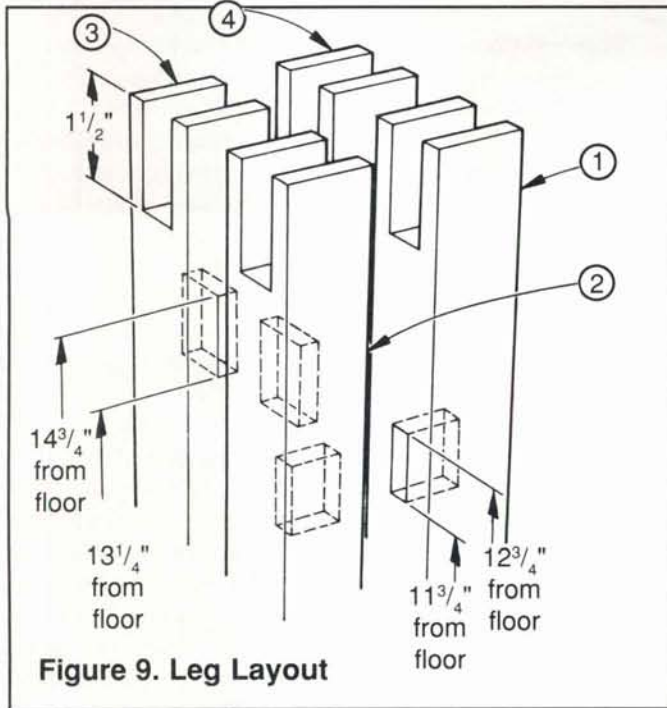

Figure 9. Leg Layout
The first operation on the base is to cut all parts to finished size. Start with the legs (K). Joint two adjacent faces of each and be sure that these faces are square with each other. With the jointed faces against the fence, rip each leg to 1-1/2" square and cut them all to correct length. Decide which end will be the top; standing the legs upright with this end up, form them into a square with all jointed faces touching each other (see the photo above). Now, number the legs, starting with the right rear one, in a clockwise direction. Also mark legs 1 and 2 to indicate the mating faces, and do the same with 3 and 4. Legs 1 and 2 will be the rear and front legs on the right side and 3 and 4 will be the front and rear legs on the left side. This is very important because you will cut three mortises in each leg, and if they are not properly placed, you will have ruined them (see Figure 9 and Figure 2). Cut the